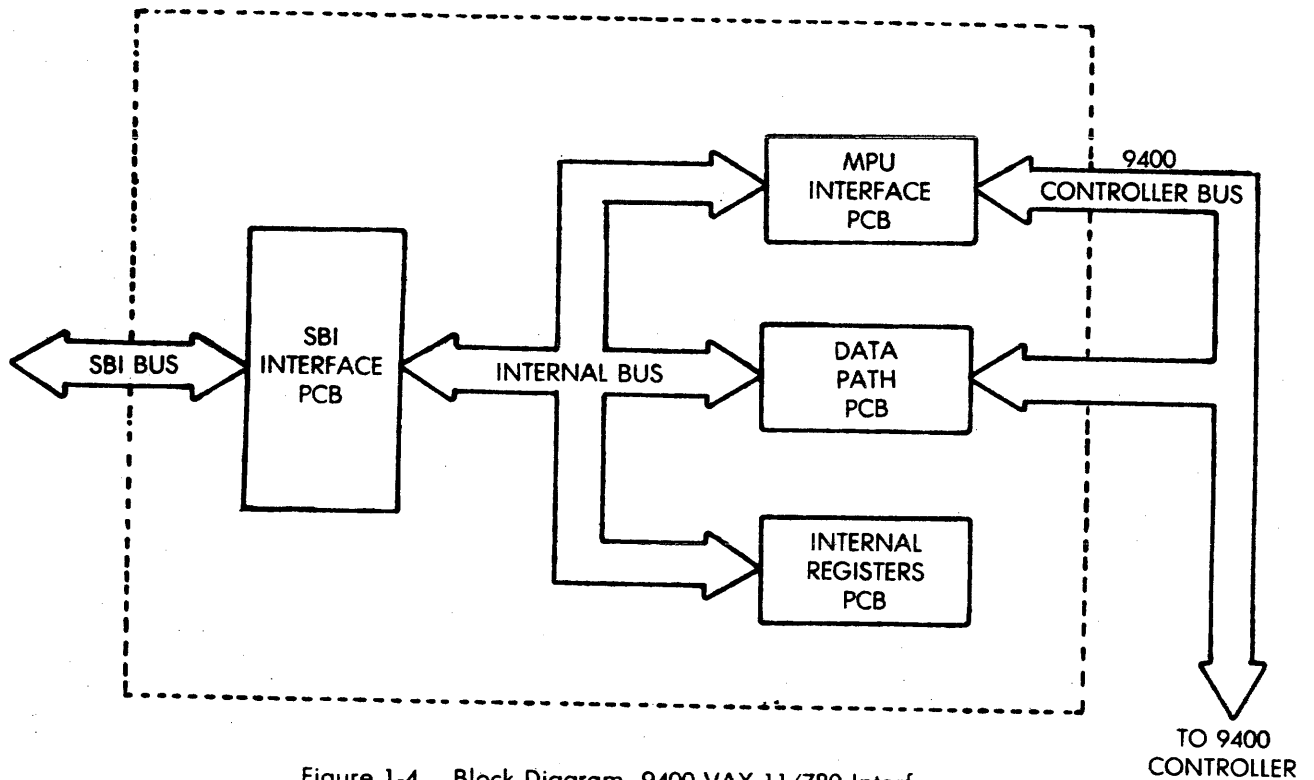

Figure 1-4. Block Diagram, 9400 VAX-11/780 Interface
b. **VAX-11/780 Interface.** (Refer to the block diagram for the 9400 VAX-11/780 Interface, Figure 1-4.) A bus internal to the 9400 system connects the 9400 Controller to the MPU Interface PCB and Data Path PCB. Another internal bus interconnects the four PCBs that make up the Interface. Both buses use the SBI backplane to communicate.